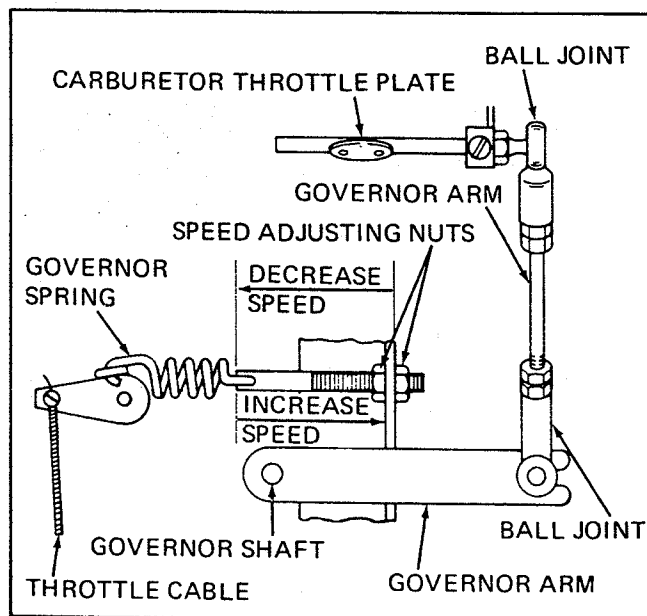

Figure 7. Variable speed governor.
Figure 7. A tachometer is required to set the governor correctly. **CAUTION: SINCE THE GOVERNOR ADJUSTMENT MUST BE MADE WITH THE ENGINE RUNNING, BE SURE THE HYDROSTATIC TRANSMISSION CONTROL LEVER AND THE 3-SPEED GEAR TRANSMIS-**
**SPEED ADJUSTMENT:** The speed at which the engine operates is determined by the tension applied to the governor spring. Increasing spring tension increases engine speed. Decreasing spring tension decreases engine speed. The no-load speed of the engine should be slightly higher than the speed requirements of the connected load. For example, if the connected load is to turn at 2310 rpm, set the no-load speed of the engine at about 2400 rpm. Check speed with a tachometer. If a speed adjustment is needed, turn the speed adjusting nut in to increase the speed or out to decrease the speed (Figure 7).